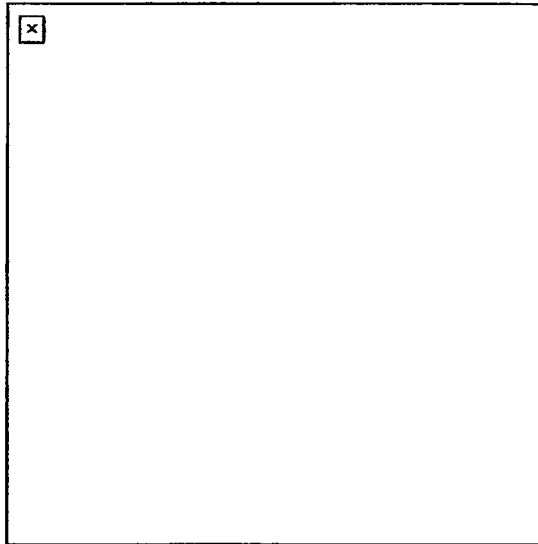

Figure 1. Coil.
- (1) Formation signals (Figures 1 and 2).